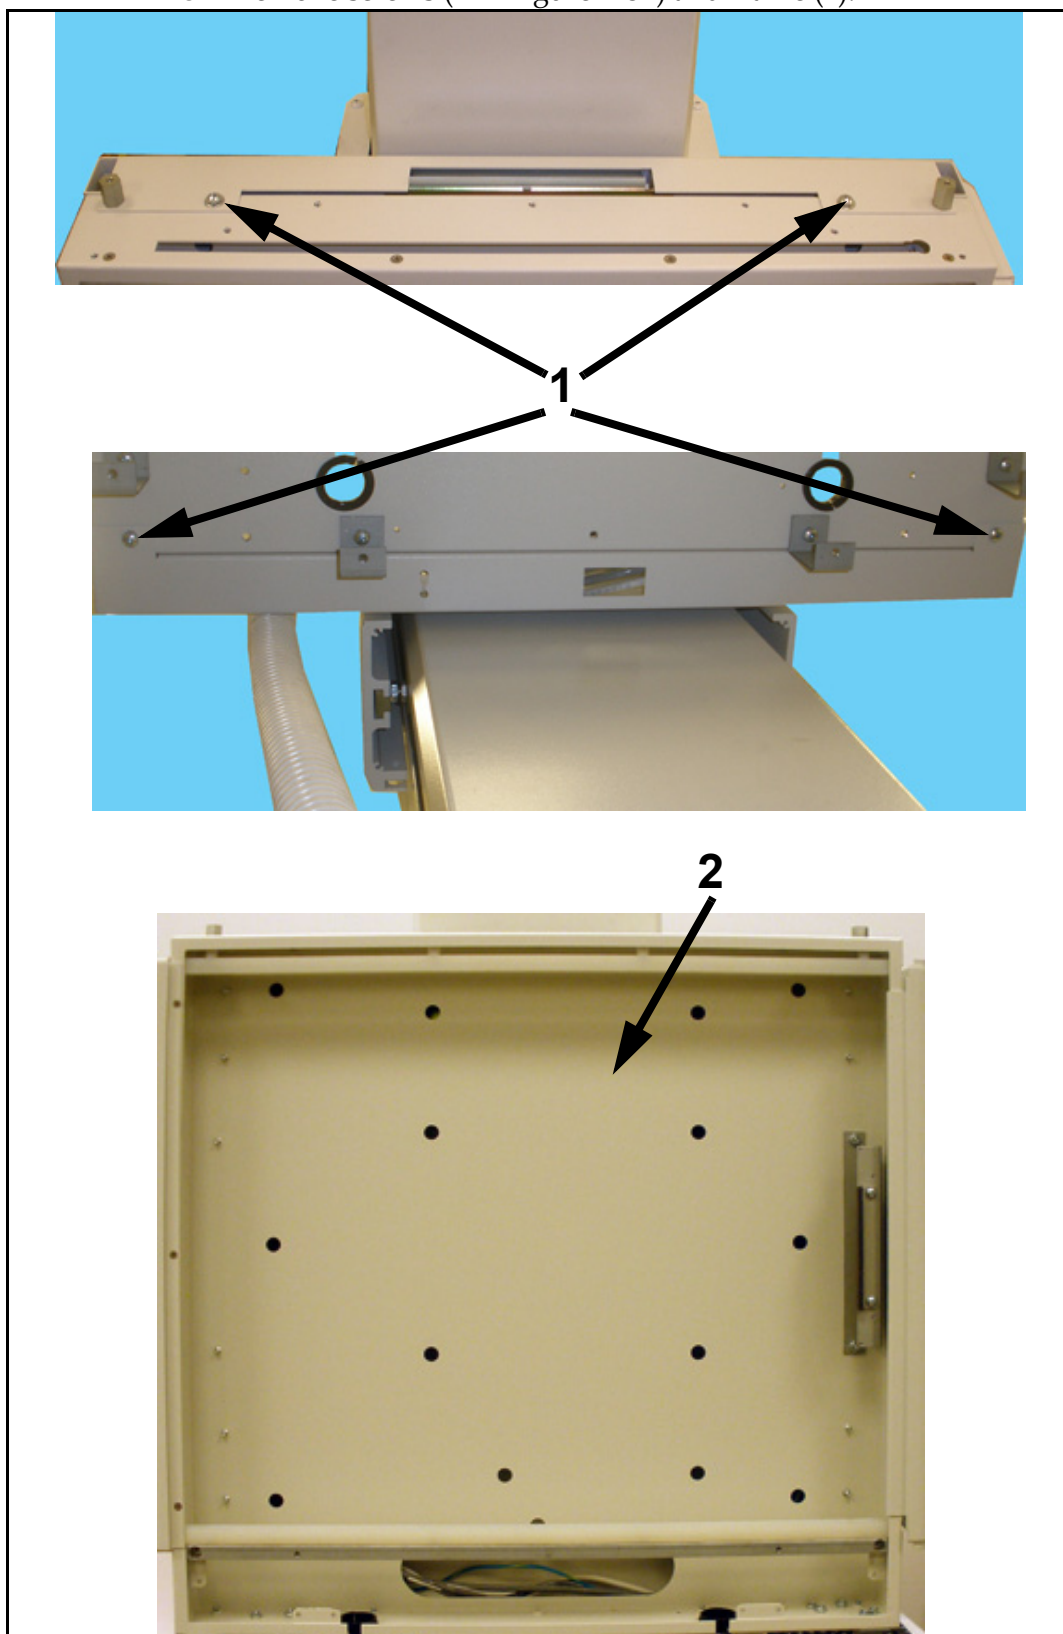

Figure E-32. Frame Removal
37 Remove screws (1 in Figure E-32) and frame (2).